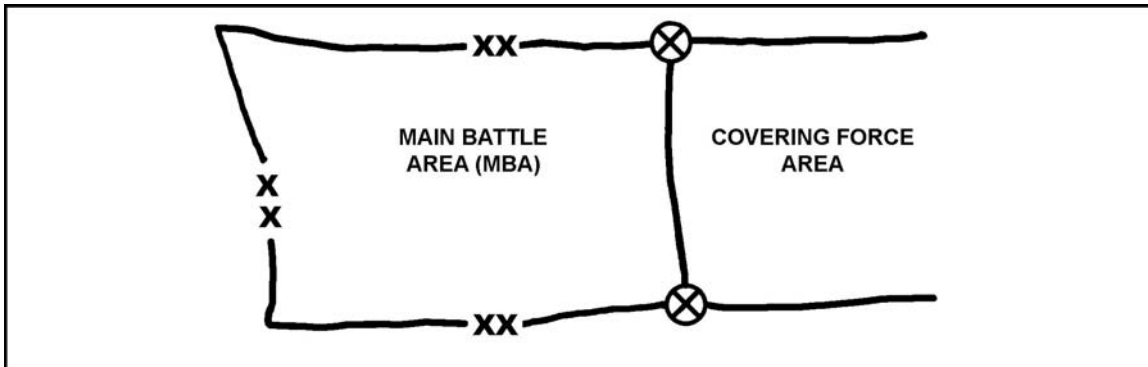

Figure 17. Organizing the defensive battlefield.
- j. Protrayed the defensive battlefield. The defensive battlefield was organized into the covering force area and the main battle area (MBA) (Figure 17).